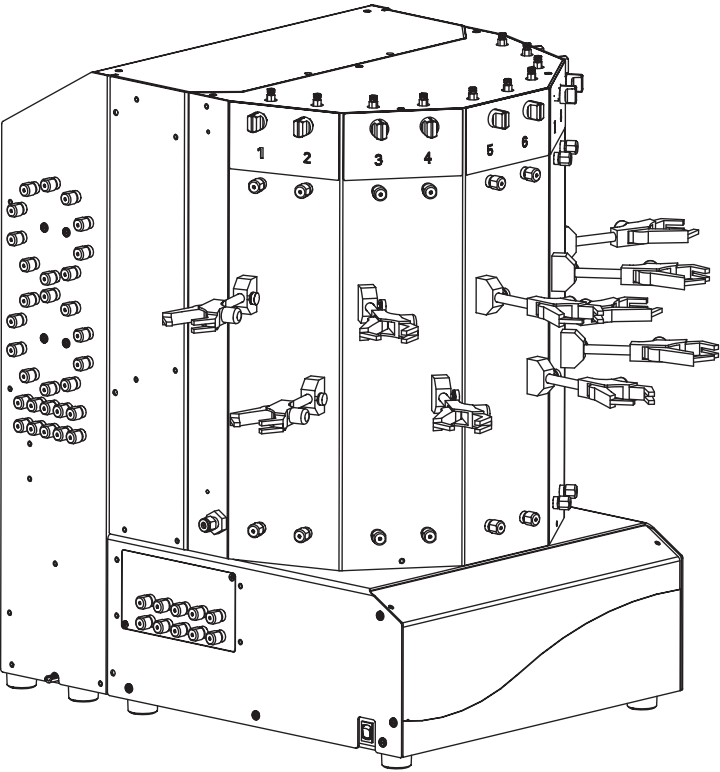

Figure 2-12 Column clamps inserted
14. Insert the ten column clamps into the BioOptix 10. Secure the clamps by tightening the thumbscrews against the stainless steel shafts (Figure 2-12).